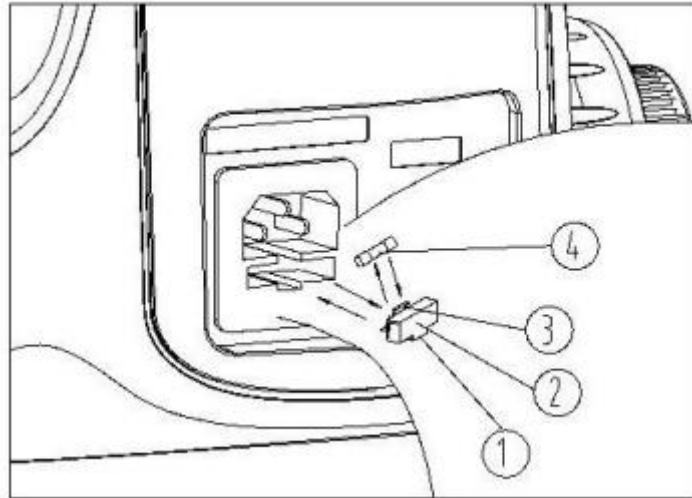

Figure 37
Turn the main switch to "0" (OFF) before replacing the fuse and unplug the power cord. Use a "-" type screwdriver to unscrew the fuse group ① from the fuse base ②. Install a new fuse and screw it securely onto the fuse base (see Fig. 37).